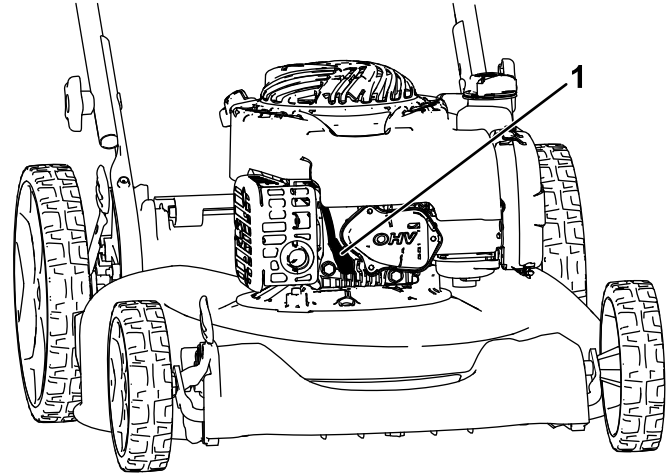

Figure 16
2. Disconnect the spark-plug wire from the spark plug (Figure 16).